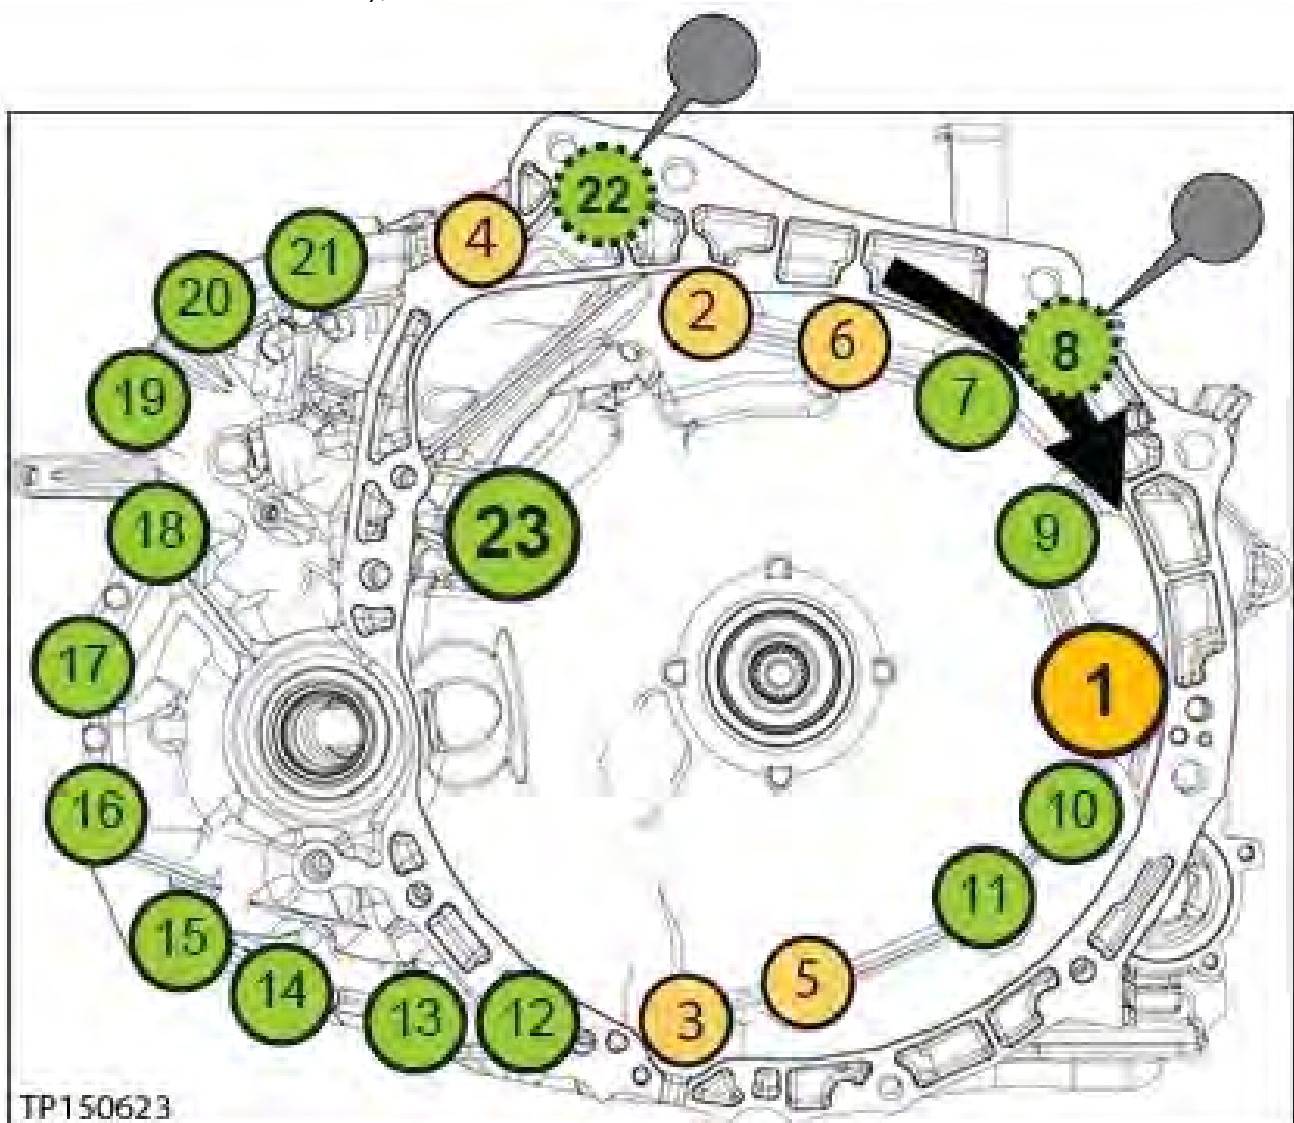

Figure 149
113. Install the converter housing onto the CVT case (see Figure 149 for torque sequence):
- a. Torque the first six (6) bolts with symbol  in numbered sequence (see below).
- Make sure to torque the bolts in the sequence shown in (Figure 149), below.